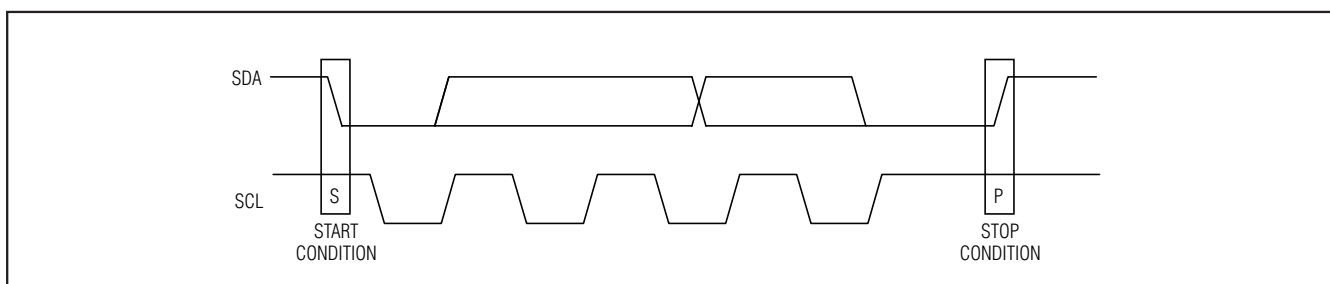
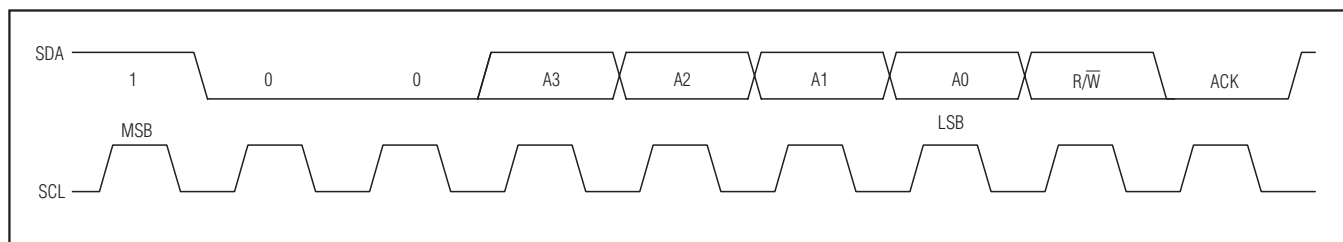

Figure 3. Start and Stop Conditions
Figure 6. Slave Address
Each transmission consists of a START condition (Figure 3) sent by a master, followed by the MAX7300 7-bit slave address plus R/W bit (Figure 6), a register address byte, one or more data bytes, and finally a STOP condition (Figure 3).
Both SCL and SDA remain high when the interface is not busy. A master signals the beginning of a transmission with a START (S) condition by transitioning SDA from high to low while SCL is high. When the master has finished communicating with the slave, it issues a STOP (P) condition by transitioning SDA from low to high while SCL is high. The bus is then free for another transmission (Figure 3).
The MAX7300 has a 7-bit-long slave address (Figure 6). The eighth bit following the 7-bit slave address is the R/W bit. It is low for a write command and high for a read command.